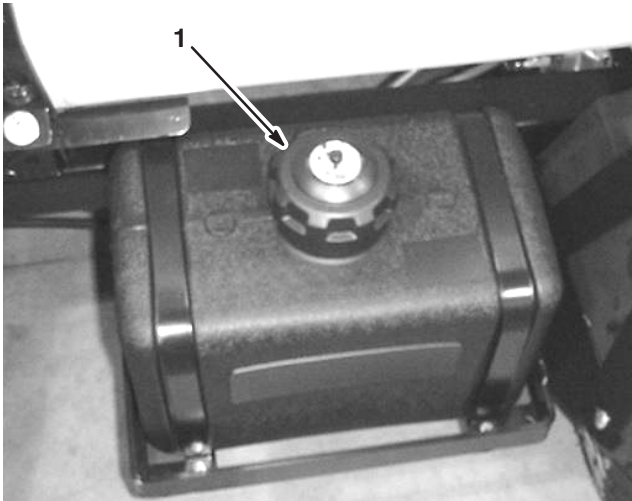

Figure 7
2. Clean the area around the fuel tank cap (Fig. 7).